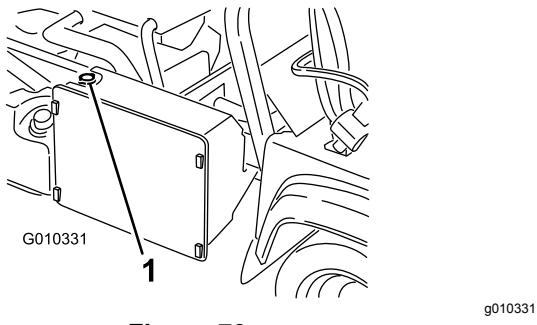

Figure 70
3. Remove the radiator cap (Figure 70).
4. Remove the reserve-tank cap (Figure 70).
7. Top off the radiator and install the cap (Figure 70).